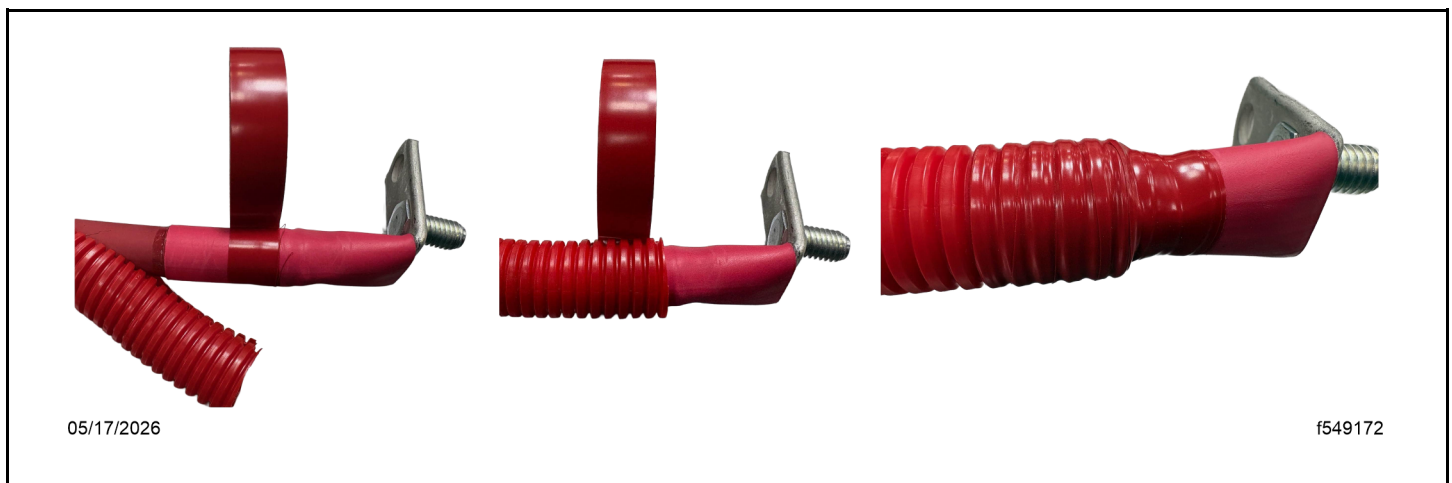

Fig 122, Installing the Convolute Cover
- d. Install the convolute cover by applying red electrical tape to cover the transition from the heat shrink to the convolute cover. See Fig. Fig. 122.